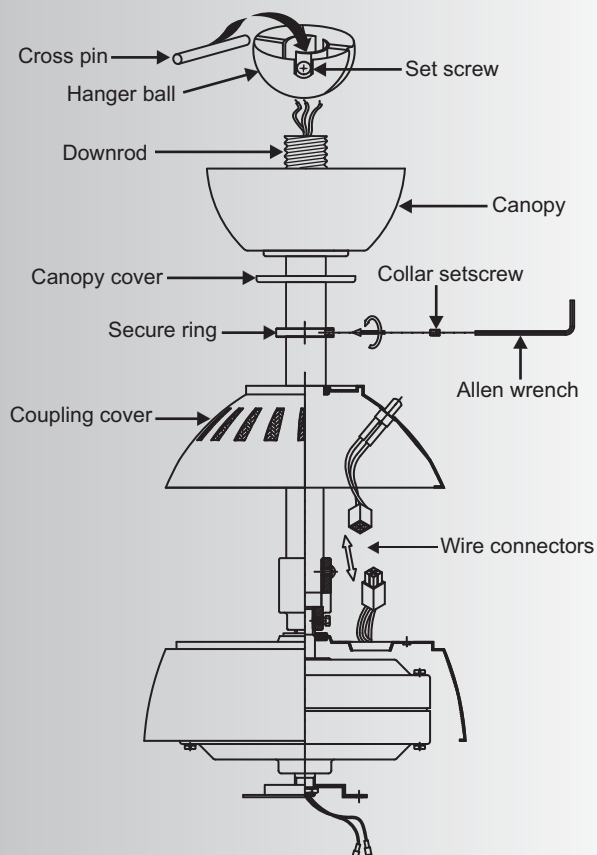

Fig. 9
Step 9. Slip the coupling cover, secure ring , canopy cover and canopy onto the downrod. Connect the wire connectors together form the coupling cover and motor housing. (Fig. 9)
Slide the secure ring, and fasten using the collar setscrew and Allen wrench provided. (Fig. 9)
Thread the hanger ball onto the downrod, insert the cross pin through the downrod and tighten. Now tighten the set screw. (Fig. 9)